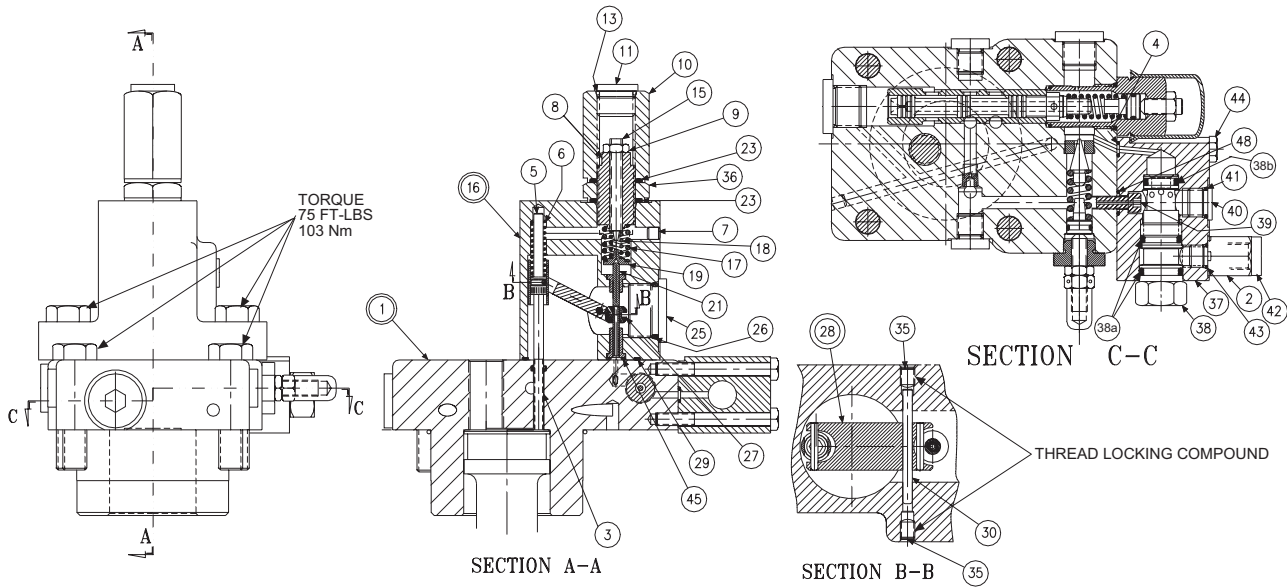

FIGURE 13
1. Install Avseal plugs (9) and .047", 1,19 mm. orifice (19) in body.
2. Press seat (10) into bore squarely against shoulder in bore.
3. Install plug (12) and spool (18) into bore as shown. Install spring (11) over end of spool. Install O-ring (6) on seal piston(16). Lubricate and install into plug (15). Install plug (15) into cap. Install screw (3), nut (4) and cover (17).
4. Install O-ring (6) on seal piston (5).
5. Lubricate O-ring and install cone (8), spring (7) and seal piston into bore in cap (1), being careful that cone enters seat (10). Install remaining parts in body (1).
6. Install O-rings (29-a) and (29-b) on valve (29). See Figure 13, page 40. Observe that backup ring on inside groove is toward the outside, the one on the middle groove is toward the inside, and the one on the outside groove is toward the outside. Lubricate and install valve (29) in block (28), being careful to avoid damaging the O-rings. Torque to 50 lb.*ft., 67,8 Nm.
7. For the P110 only, install O-ring (32) on adapter (35). Install adapter in block (28). Install plug (31) in adapter (35). For the P07 only, install O-ring (32) on plug (31). Install plug (31) in block (28).
8. Note proper location for cap on pump (page 24). Install O-rings on interface between cap and pump control pad. Install O-rings (26) in block (28).
PARTS LIST FOR FIGURE 13
1. See Figure 13. Remove 2 screws holding torque limiter body (16) to cap assembly (1).
2. Remove all parts from torque limiter body (16) except pin (30) and arm assembly (28). It is not necessary to remove these parts unless broken or worn. Examine parts for wear or damage.
3. Remove screw (3). Examine head for excessive wear, and body for smooth sealing surface with O-ring.
5. Remove modulating valve (38) from body (37). Remove body (37) from cap assembly (1) Note plug (40) must be removed to remove special screw (39). Remove cap assembly (1).
5. Lubricate O-ring and install cone (8), spring (7) and seal piston into bore in cap (1), being careful that cone enters seat (10). Install remaining parts in body (1)
8. See Figure 13. Install block (37) on cap (1) with O-rings (4) and (48). Use special screw (39) through the block.